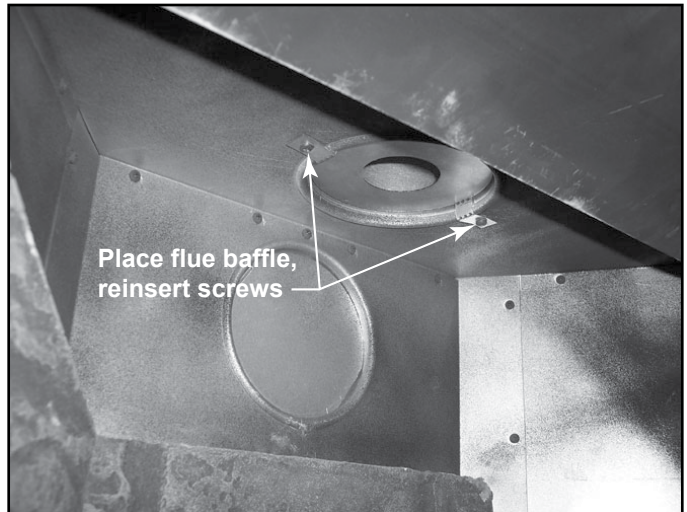

Figure 4.22 31-60 Foot Vertical Run
- The flue baffle will be turned to install inside the flue for vertical vent runs of 31-60 ft. See Figure 4.22.